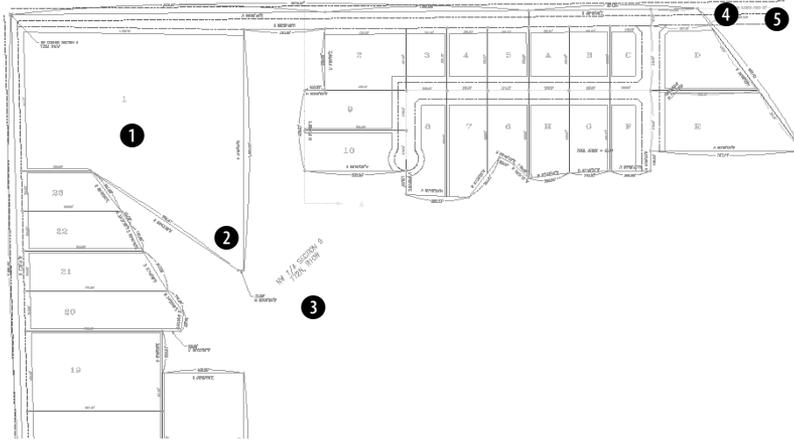

Figure 13-20: The plat drawing.
2. Save the file as `ab13-05.dwg` in your AutoCAD Bible folder. This is a plat drawing, as shown in Figure 13-20.
3. Choose Multiline Text from the Draw toolbar. At the prompts, pick points ❶ and ❷ in Figure 13-20. The Multiline Text Editor opens. In the Text Height box, change the height to **12.5**. In the main editing box, type the following:
5. Open Windows Explorer (right-click the Start button and choose Explore). Find ab13-c.txt on your CD-ROM. Move the Windows Explorer window so that you can see both ab13.txt and your drawing screen. Drag ab13-c.txt from the Windows Explorer window to ③ in Figure 13-20. If necessary, pick a grip, press the Spacebar once to choose the Move option, and click at the proper location.
8. Choose Zoom Previous on the Standard toolbar to return to your original view. Use Zoom Window to zoom in to the area bounded by ④ and ⑤. Set the current layer to 0 (which is a gray color).
10. At the prompt, pick ④ and ⑤, centering the boundary box around the yellow center line. In the Text Height box of the Text Formatting toolbar, change the text to 12.5. The text style should be ROMANS. Type the following text: